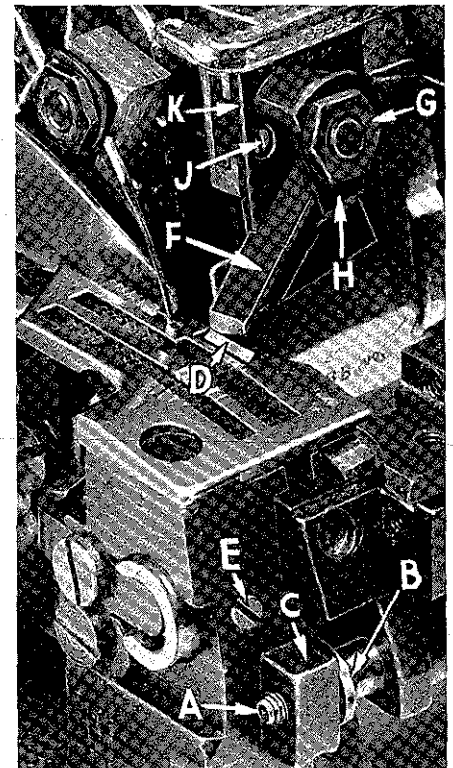

Fig. 11
Replace lower knife holder assembly. In replacing the lower knife holder assembly, tighten screw (A, Fig. 11) so that when the face of the flange on sleeve (B) seats against the throat plate mounting bracket (C) a free lateral motion of the lower knife and holder assembly is obtained when the knife is manually pressed at its upper corner. Lower knife (D) should be set with the cutting edge flush with the throat plate surface. Adjustments are made with hexagonal head screw which holds lower knife. Lower knife is spring pressed against upper knife. So no lateral adjustment is necessary when width of trim is changed.
Replace upper knife assembly. Clamp upper knife (F, Fig. 11) in position, setting nut (G) to hold clamp (H) in its most clockwise position against upper knife. At bottom of its stroke, front cutting edge of upper knife should extend not less than  $1/64$  inch below cutting edge of lower knife. The chain guard should be set down against the upper knife and slightly back from the cutting edge.